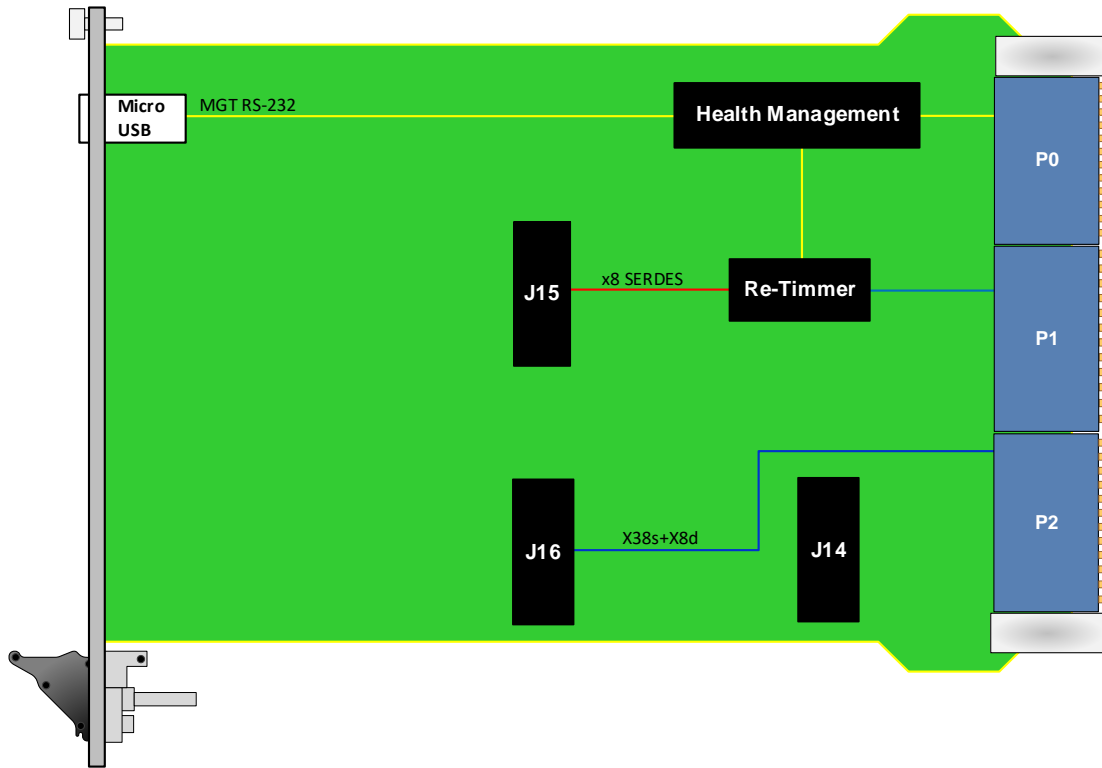

Figure 6: VPX102 Functional Block Diagram, Option D=4
- P1w9-X12d+P2w3-X38s+X8d (Figure 6)